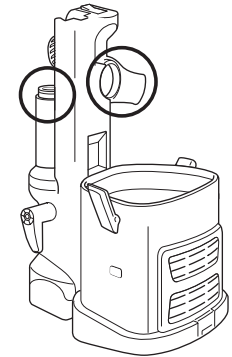

Fig. 24
- Remove the dust cup and wand and separate the canister from the motorized floor nozzle. Check all openings and clear any blockages. **(Fig. 24)**